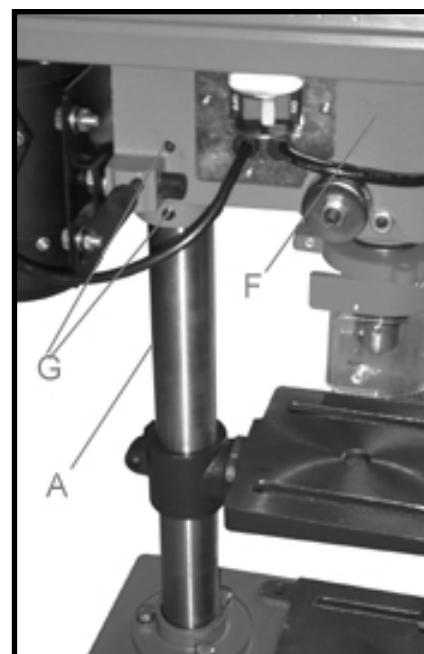
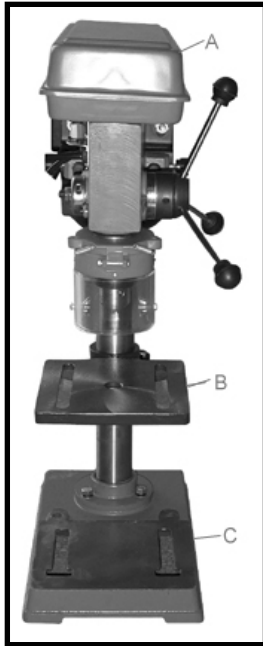

Fig. 7
Fig. 7A
4. Place the drill press head (F), onto the column (A) as far as it will go. Align head (A) Fig 7A, to table (B), and base (C). Tighten the two head locking screws (G) Fig. 7 with wrench supplied.